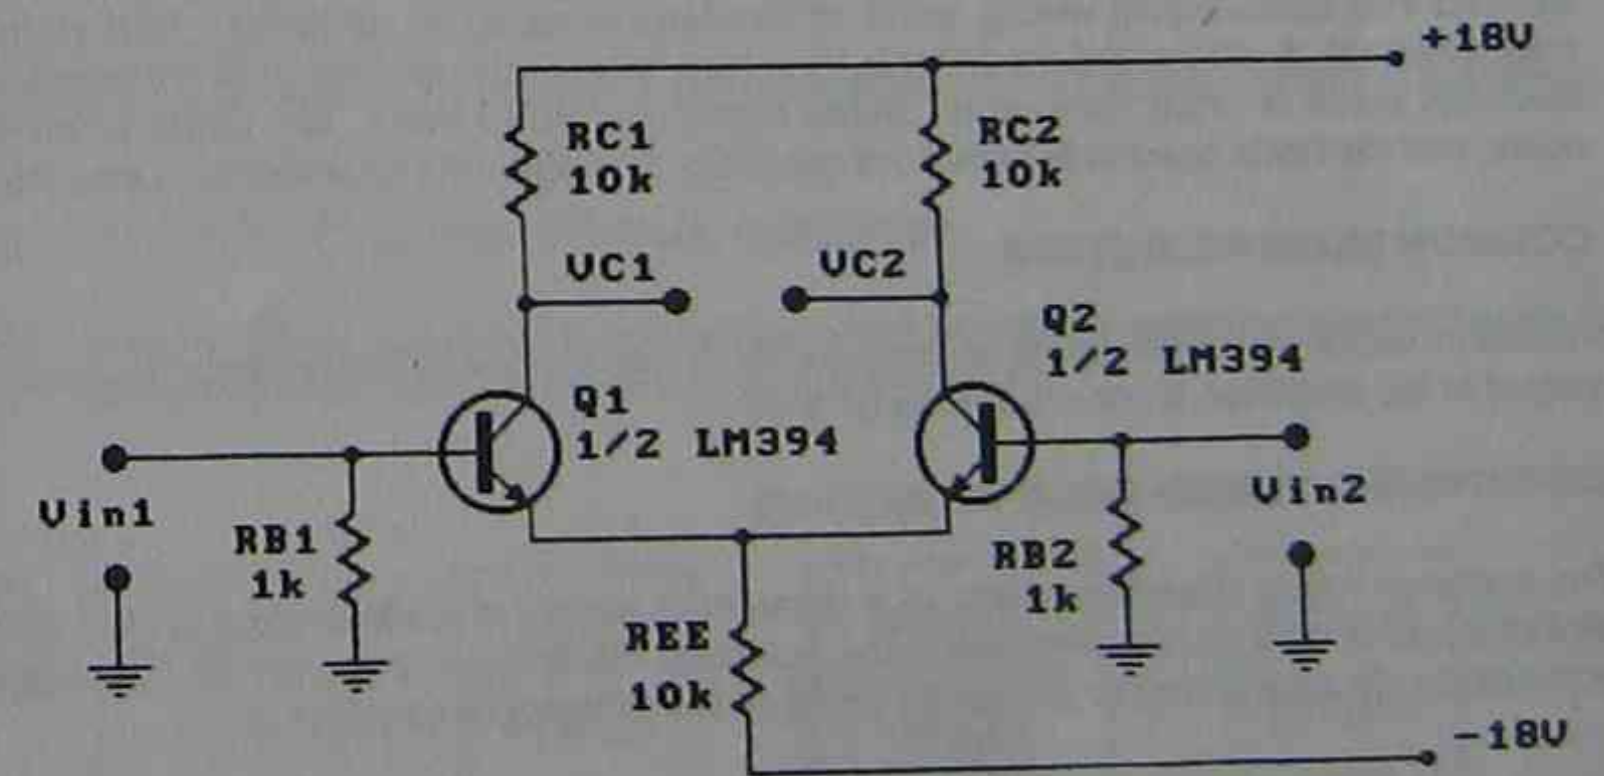

Fig.1
3. Determine the voltages present at the base, collector and emitter terminals for both transistors in the circuit of Fig.1.
4. Given that r_e equals 29Ω for both transistors in Fig.1, calculate the differential voltage gain for: